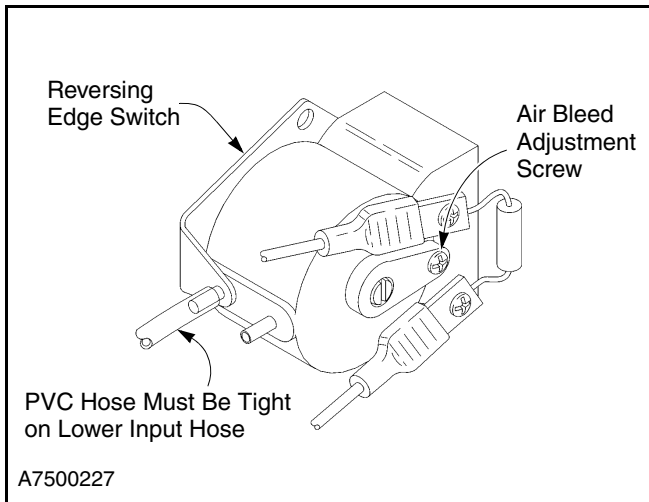

Figure 47
2. Make sure the clear PVC hose is in tight contact with the air input post so that air leakage cannot occur and that vibration will not cause the hose to fall off. Make sure the hose is not kinked. (See Figure 47.)
3. The air bleed has been set at the factory and should not require adjustment. To check the air bleed, turn the air bleed adjustment screws located on the front and back of the switch fully clockwise but do not overtighten. Then turn the screws back counterclockwise one full turn. (See Figure 47.)